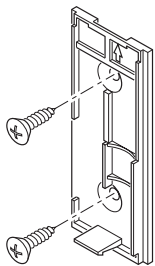

Figure 4
- **Screw Mounting:** To mount with screws, remove back of case by pushing in tab on bottom with a small screwdriver (see Figure 1). *Note:* Remove material in screw holes (if needed) before mounting with screws. Attach back of case to door jamb or wall (see Figure 4). Snap front of push button on.